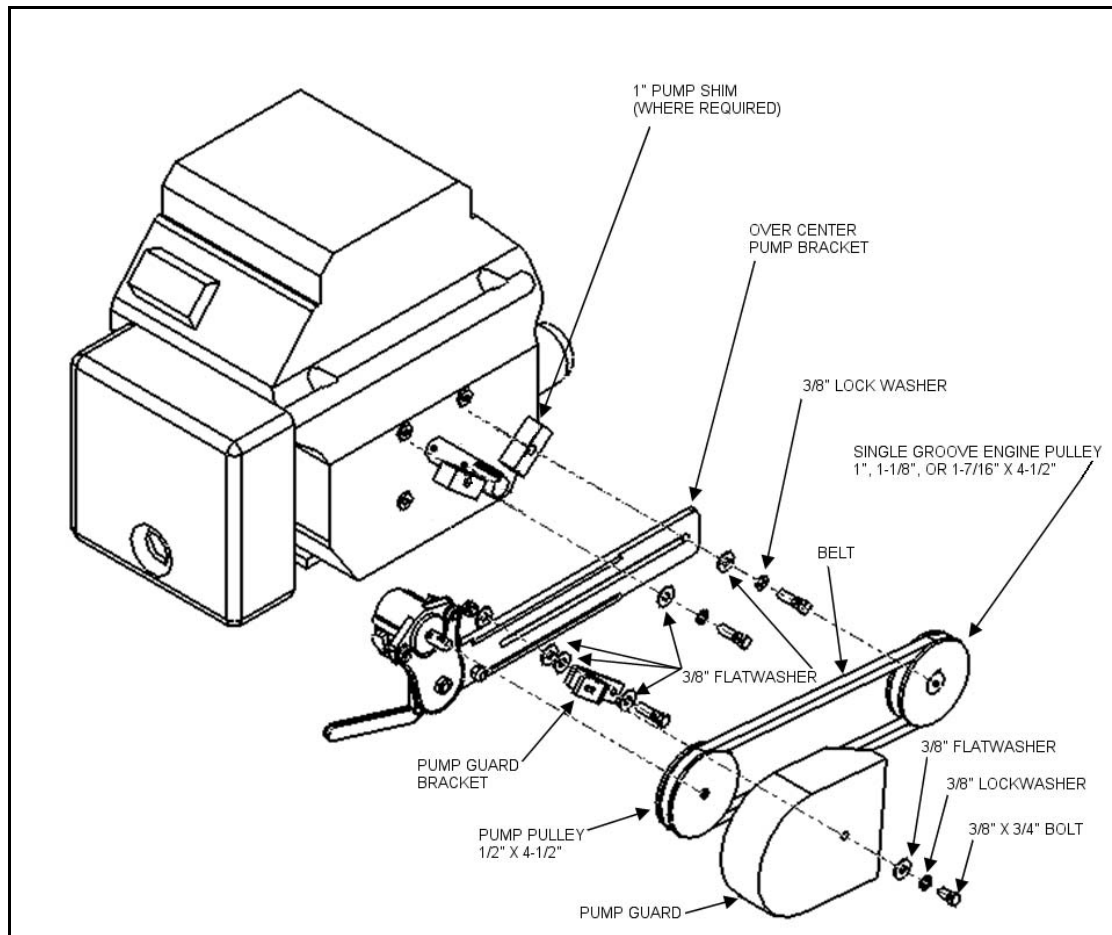

Figure 3.1 Gear Pump Installation Guard
Refer to Figure 3.1 for assembly.
**Note:** *The engine pulley guard is removed from Figure 3.1 for illustrative purposes only.*
1. The over-center (o/c) pump bracket comes pre-assembled and is attached to the engine block with two 3/8" bolts. Use 1" pump shims to provide a flat mounting surface for the o/c pump bracket (Figure 3.1).
1. Bolt the pump guard bracket to the over-center pump bracket (Figure 3.1).